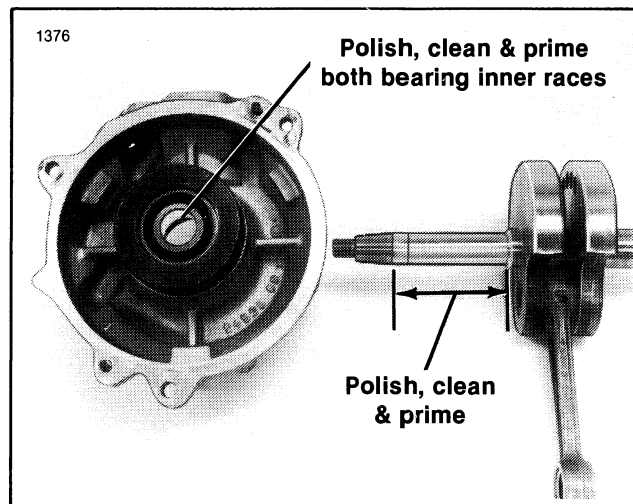

Figure 5-34. Polish, Clean And Prime As Shown
11. See Figure 5-34. Apply Harley-Davidson SLEEVE RETAINER, Part No. 99628-77 (Loctite 601 or 640) sparingly to the inner race of the outer bearing and to the crankshaft as shown.